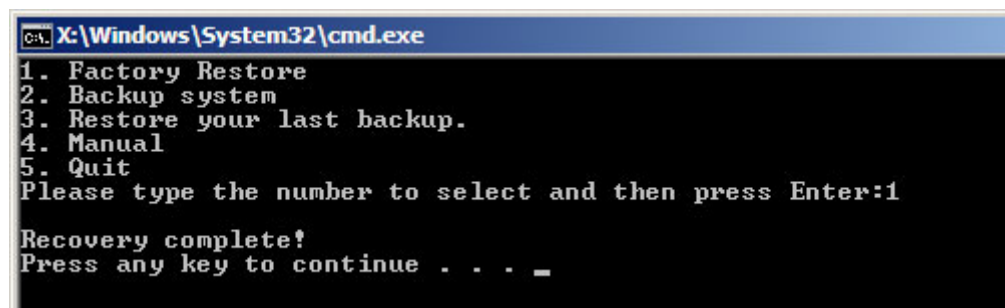

Figure A-37: Recovery Complete Window
Step 3: The screen is shown as in **Figure A-37** when completed. Press any key to reboot the system.